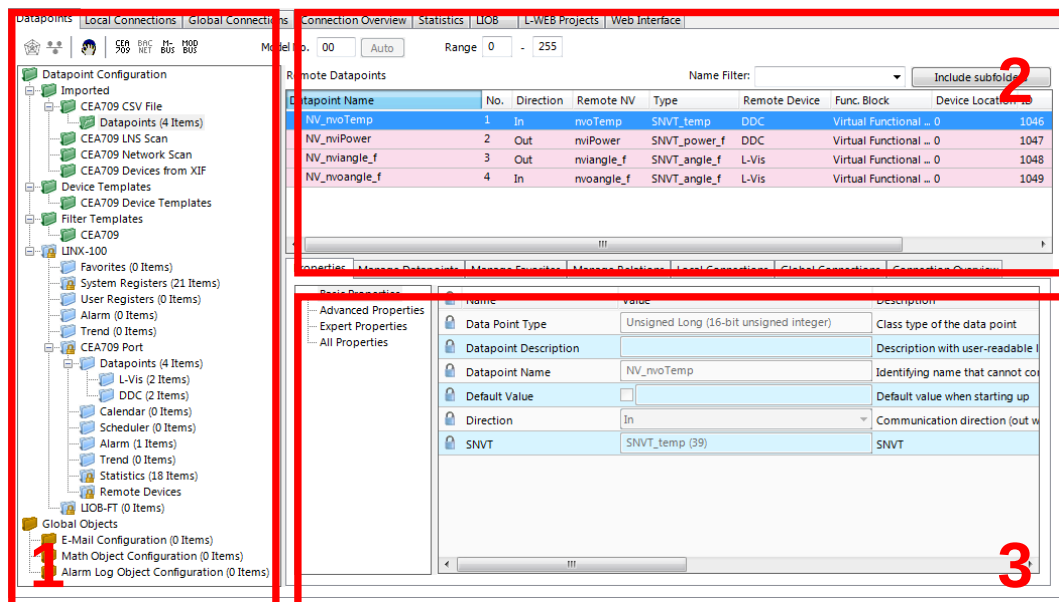

Figure 104: Data Point Manager Dialog.
The Configurator uses a central concept to manage data points. The data point manager is located on the **Datapoints** tab as shown in Figure 104. It is used to select, create, edit and delete data points. The dialog is divided into three sections:
- The folder list (number 1 in Figure 104),
- The data point list (number 2 in Figure 104),
- And a property view (number 3 in Figure 104).